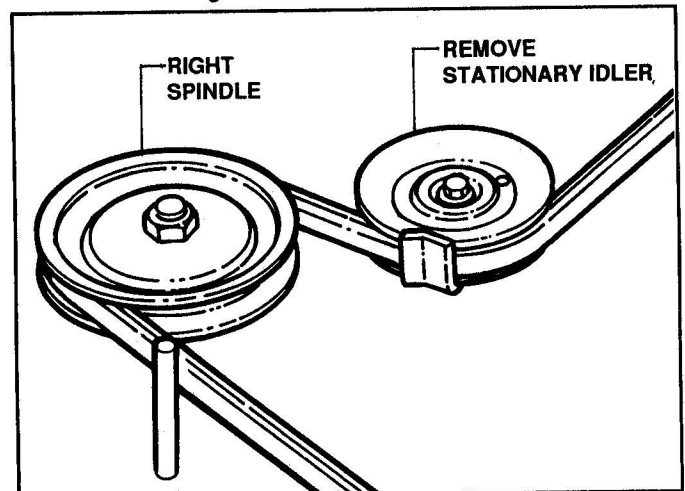

FIGURE 4.21
1. Remove stationary idler on right side of deck. See Figure 4.21.